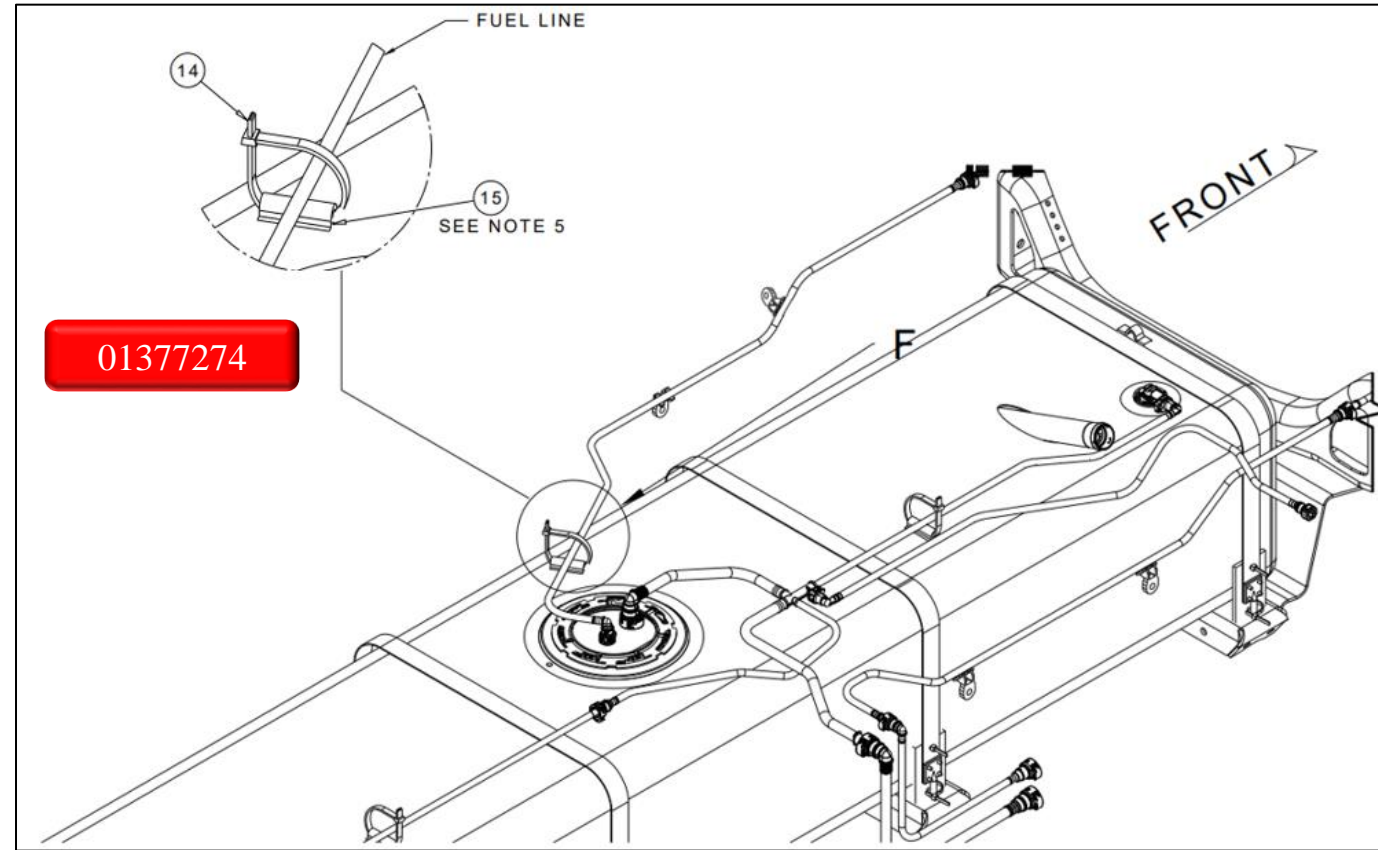

FIGURE 10
- It may be necessary to re-locate the fuel line anchor on the tank. If so, cut a 1-inch section of Item 2 listed below and secure to the tank. Then secure the line to the bulb seal with Item #1. See Figure 10